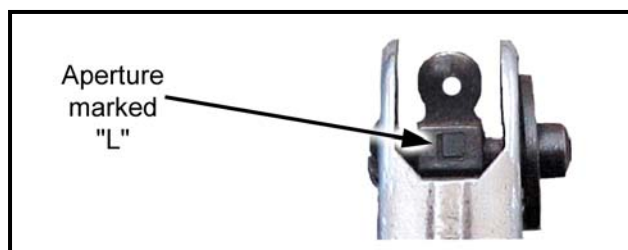

Figure 2-3. M16A1 rifle battlesight zero.
(2) **Battlesight Zeroing the M16A1.** If necessary, the soldier should use the aperture marked “L” to battlesight zero the weapon (Figure 2-3). Tables 2-3 and 2-4 show how much one click of elevation or windage will move the strike of the round from a 25-meter zero all the way out to 500 meters.